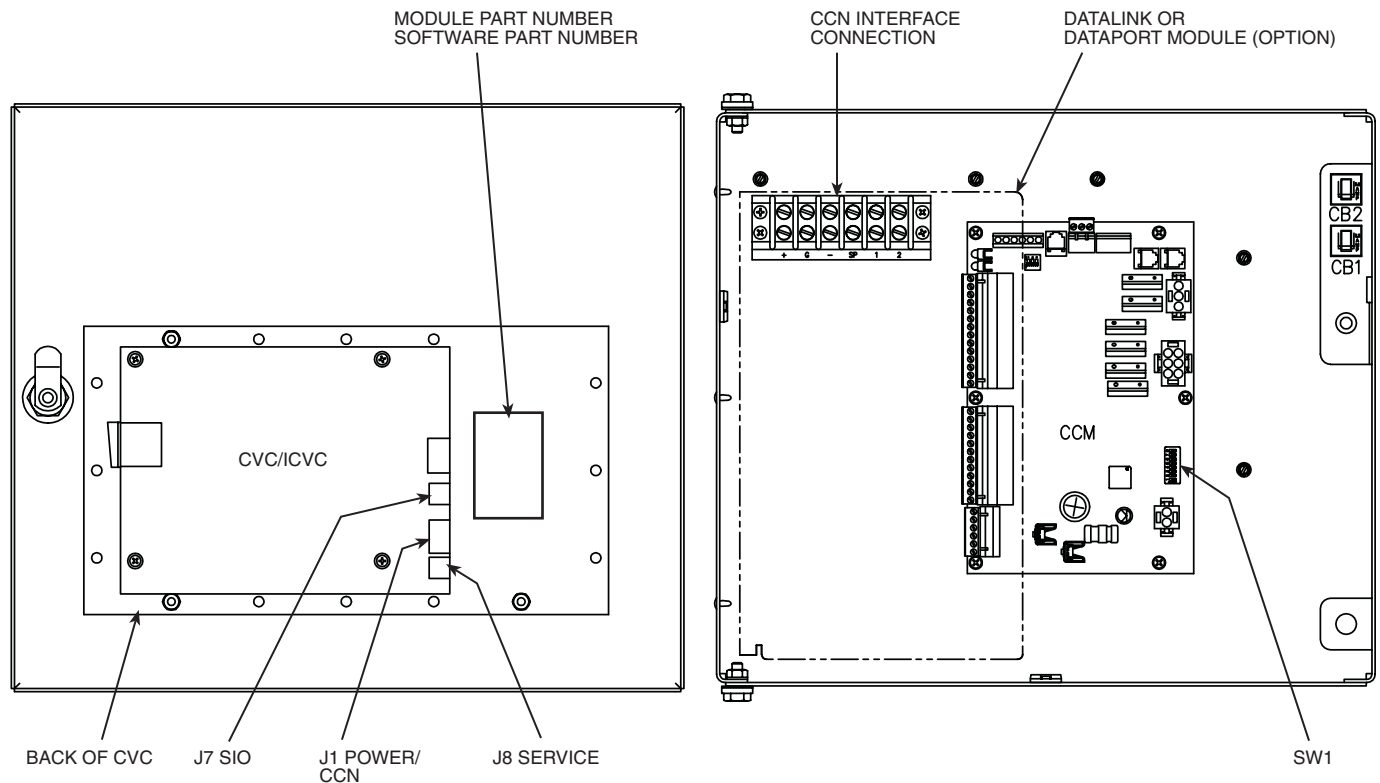

Fig. 40 — Rear of CVC/ICVC (Chiller Visual Controller/International Chiller Visual Controller)
2. If a green LED is on continuously, check the communication wiring. If a green LED is off, check the red LED operation. If the red LED is normal, check the module address switches (SW1) (Fig. 40 and 41). Confirm all switches are in OFF position.